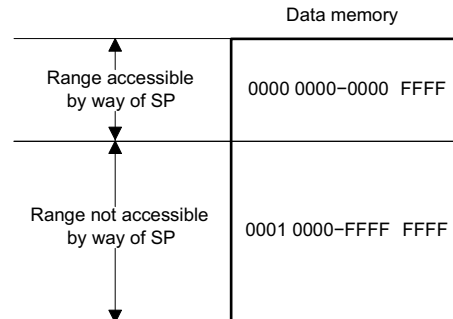

Figure 2-7. Address Reach of the Stack Pointer
2.2.5 Stack Pointer (SP)
The stack pointer (SP) enables the use of a software stack in data memory. The stack pointer has only 16 bits and can only address the low 64K of data space (see Figure 2-7). When the SP is used, the upper six bits of the 32-bit address are forced to 0. (For information about addressing modes that use the SP, see Section 5.5). After reset, SP points to address 00000400₁₆.